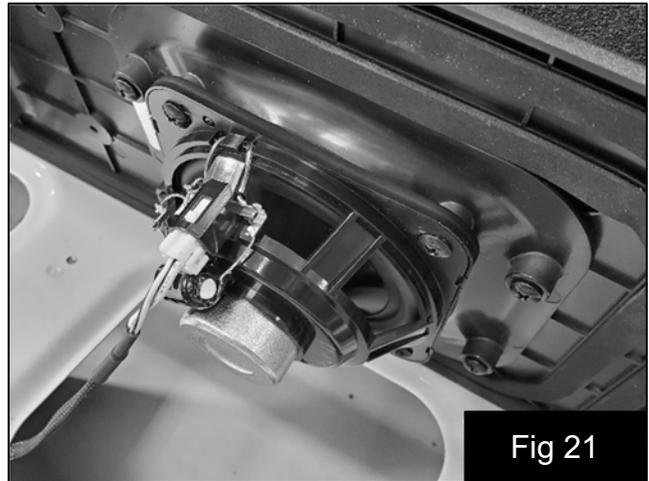

Fig 21
30. Connect the speaker harness to the speakers. Fig. 21